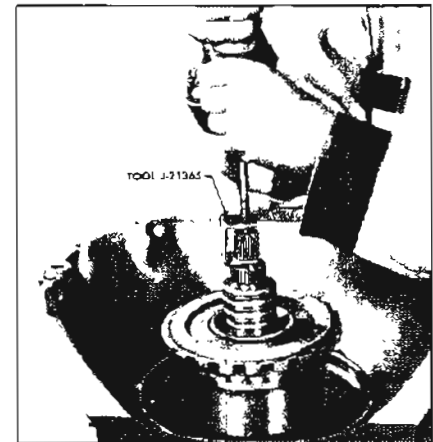

Figure 5-694
8. Install the complete gear unit assembly into the case. See Figure 5-694.